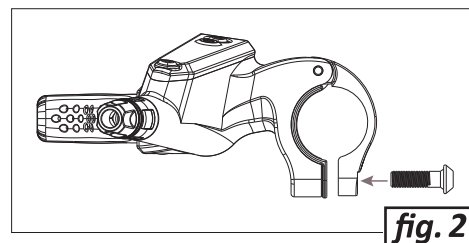

fig. 2
- Tighten the 5mm Allen (hex) bolt to secure the lever in place (fig. 2)